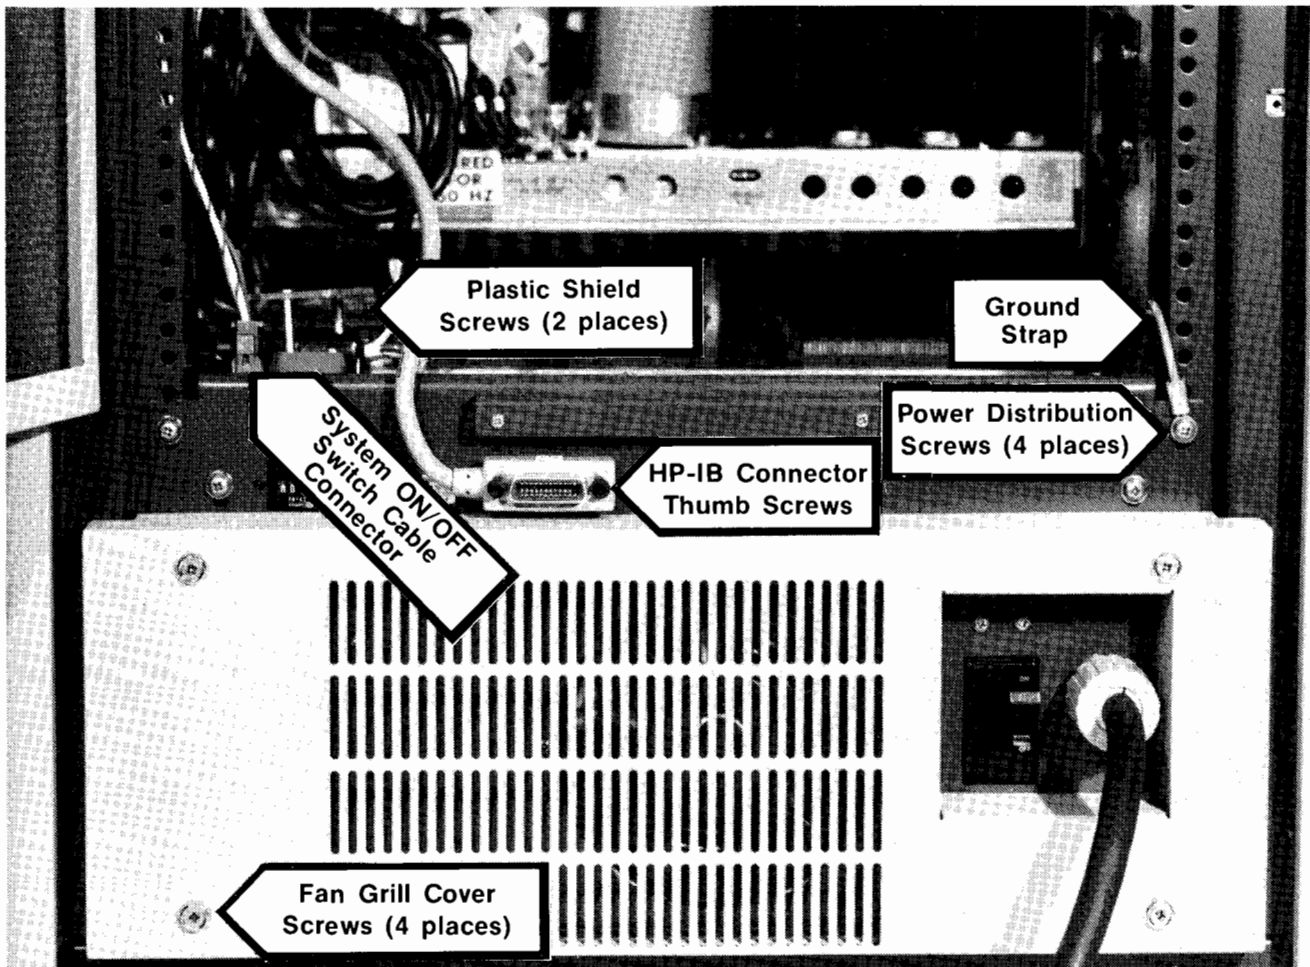

Figure 3-5. Power Distribution Assembly
- c. Use a 9/64 inch hex key to remove the two hex nuts which secure the power distribution terminal block shield (clear plastic cover) to the shield standoffs (see figure 3-5) and remove the shield.
- e. Disconnect the braided ground strap (see figure 3-5), secured to the cabinet frame on the right side of the power distribution assembly, by removing the screw from the cabinet main frame.
- f. Disconnect the HP-IB cable connector by removing the two thumb screws which secure it to the power distribution assembly (figure 3-5).
- g. Unplug the SYSTEM ON/OFF switch cable connector (see figure 3-5) from the distribution assembly.
- h. Remove the fan grill cover (figure 4-1, item 33) by removing the fan grill cover screws at the four corners of the grill cover (see figure 3-5).
- i. Remove the power distribution assembly by removing the Power Distribution Assembly screws at the four corners of the assembly (see figure 3-5) and pulling the assembly from the cabinet.